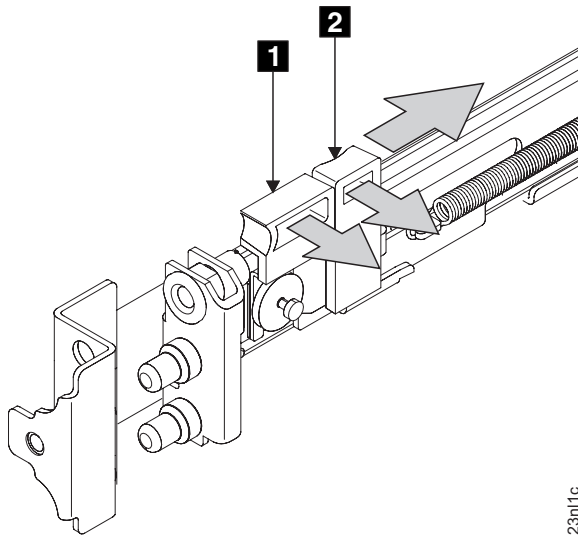

Figure 88. Opening the front latch-lock carrier assembly
3. Gently push the latch lock **2** away from the rail as you move the latch lever **1** toward the far end of the rail (Figure 88 on page 362). The latch-lock carrier assembly slides against the spring tension.